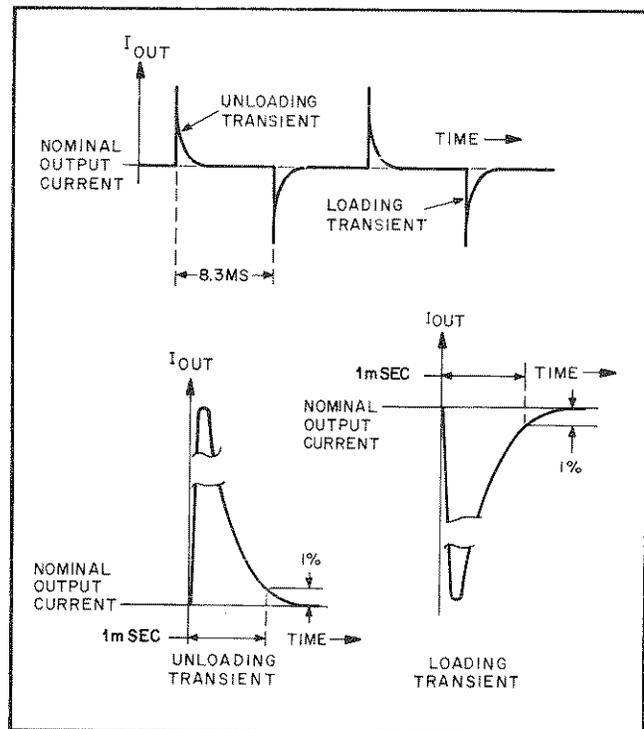

Figure 5-6. Load Transient Recovery Time, Waveforms
- Adjust 25K potentiometer until stable display is obtained on oscilloscope. Recovery waveform should be within tolerances shown in Figure 5-6. Output should return to within  $\pm 100\text{mV}$  of nominal value in less than 1 millisecond.